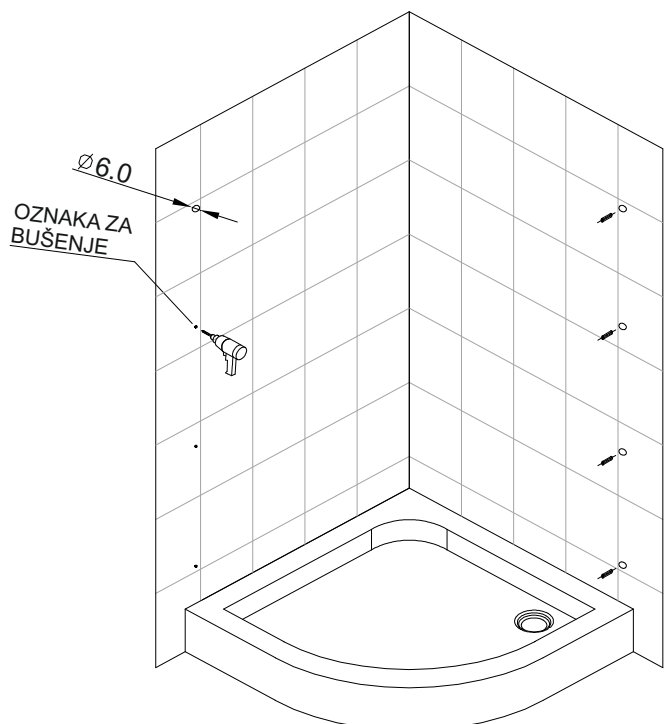

Fig. 2
- 2) Drilling the holes ( 8- $\phi$ 6mm) according the mark, insert the 1) plastic plug into the hoes . As Fig.2